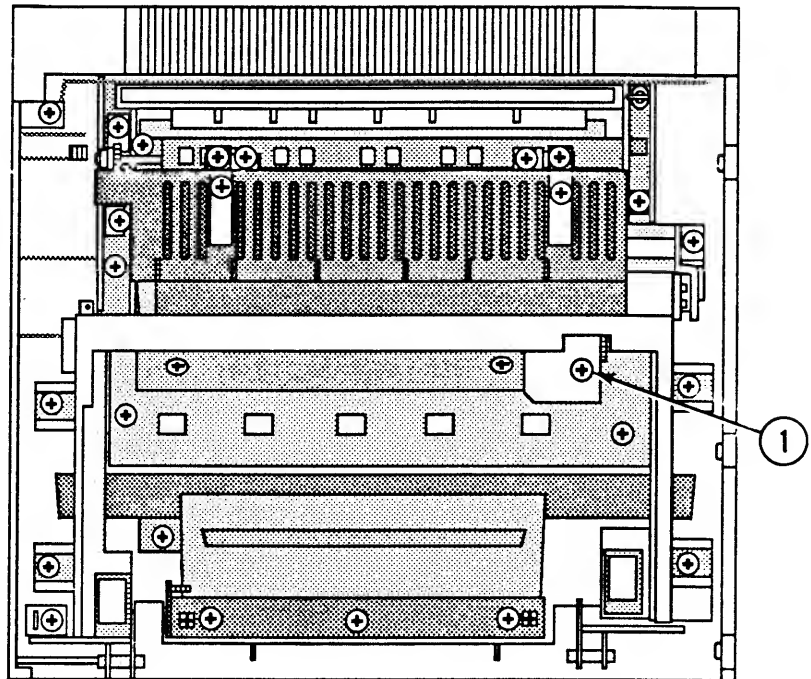

FIGURE 79
2. Remove the Phillips screw (Figure 79, #1) that secures the preconditioning exposure contact cover to the preconditioning exposure assembly.